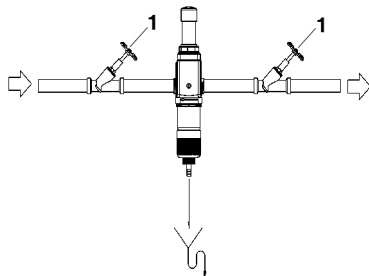

Figure 8. Cartridge exchange I
1. Close the shut-off valves (1) upstream and downstream of the device (see Figure 8).